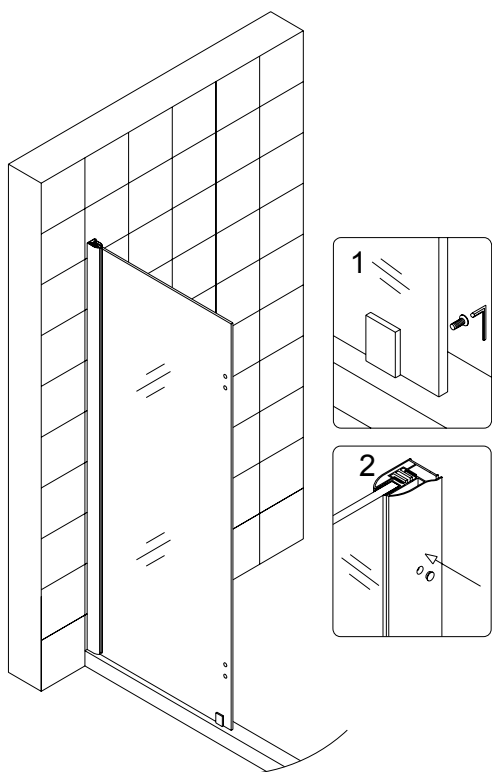

Fig 3
3. Fasten the **Stationary glass panel (02)** in the wall profile. Assemble the **Bottom bracket (14)**, cover it **with Decorative plug (08)**. See Fig.3 for details.